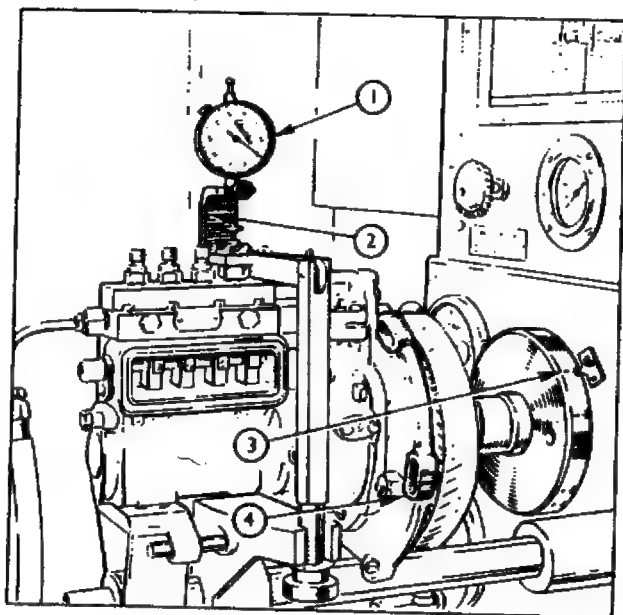

Fig. 33 1 Camshaft End-Float Gauge
1. Unscrew the delivery valve holder on No. 1 element and remove the valve, spring and volume reducer. Fit a plunger head clearance gauge Tool No. CT.9076A and tighten to a torque of 40.6 to 47.5 Nm (4.15 to 4.84 kgf m or 30 to 35 lbf ft). Locate the spindle in the tool and fit the camshaft end-float gauge Tool No. CT.9017 so that the barrel rests on the spindle upper end (see Fig. 33). Do not overtighten the thumb screw or plunger movement will be restricted.
8. At the point of inlet closure, set the graduated phasing ring to 0 (see Fig. 33).